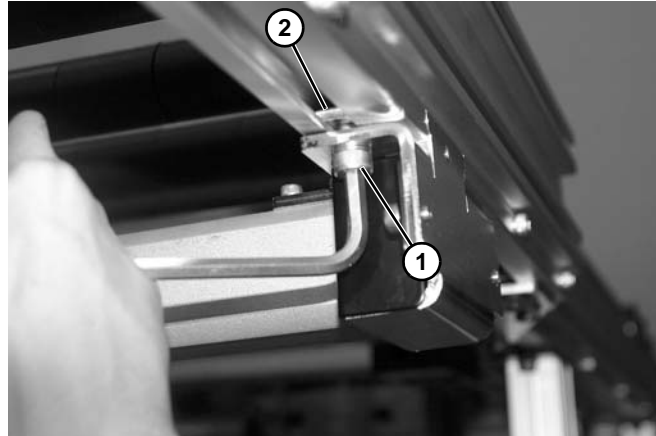

Figure 9
3. Remove screws (**Figure 9, item 1**) connecting the motor to the spring nuts (**Figure 9, item 2**) in the conveyor frame.